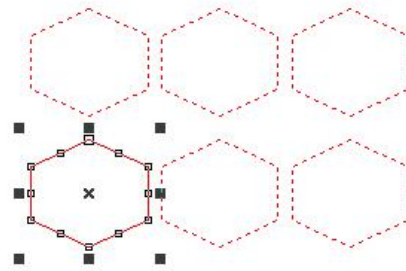

Figure 2-14 Array (X=3, Y=2)
- Figure 2-14 stands for the situation when "X=3, Y=2"